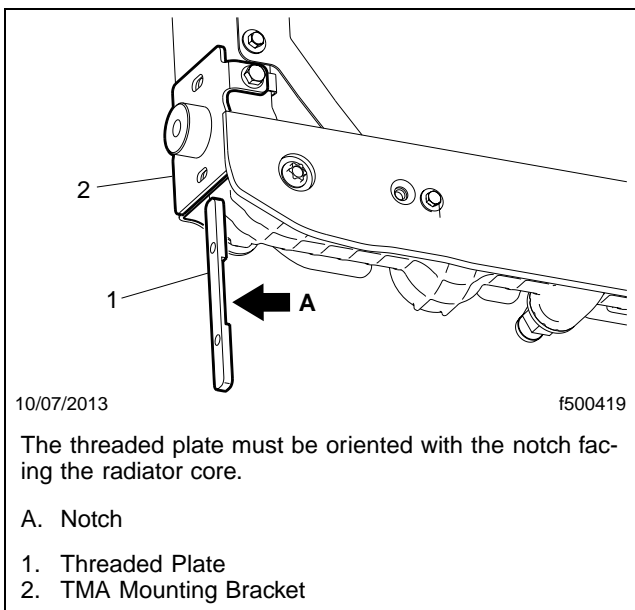

Fig. 7, Threaded Plate Installation
- Slide the threaded plate up inside of the radiator side channel as shown in **Fig. 7**. Make sure the notch is facing the radiator core.